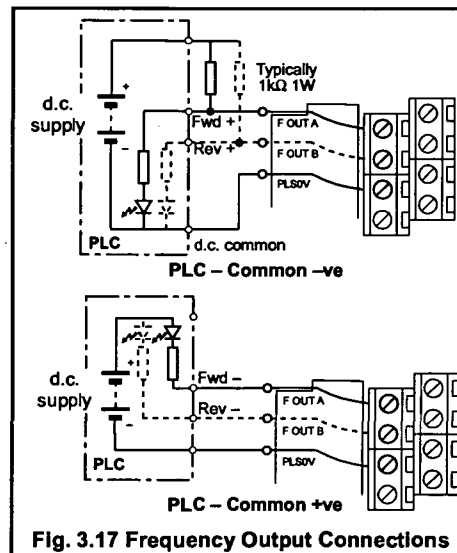

Fig. 3.17 Frequency Output Connections
3.4.2 PLC Interface – Fig. 3.17